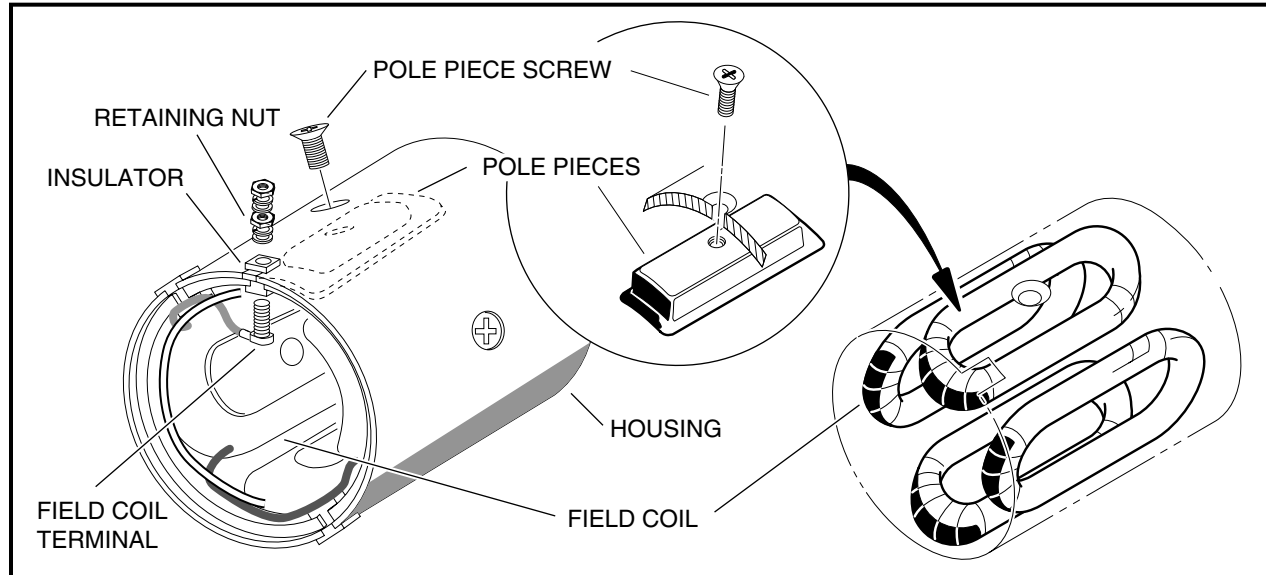

Figure 12-11 Field Coil Assembly
1. Remove the retaining nut from each field coil terminal and slide the insulator out of the slots in the housing. Remove the four pole piece screws from the housing. Remove the four pole pieces from inside the housing. Remove the field coils from the inside of the housing (Figure 12-11, Page 12-8). See following NOTE.
**NOTE:** Do not remove the insulators or the field coils unless an electrical test indicates that it is necessary (Figure 12-11, Page 12-8). See Test Procedure 8, Section 11, Page 11-30.
2. After the insulators are seated in the slots, install the threaded terminals through the wire connectors and then through the insulators. Install a flat washer, lock washer and nut onto each threaded terminal on the outside of the housing. Tighten nuts to 47.5 in-lb (5.4 N·m) (**Figure 12-11, Page 12-8**).
3. Install the four pole pieces into the housing. Use the four screws to secure pole pieces to the inside of the housing to retain the field wires. Tighten screws to 9 ft-lb (12.2 N·m) (**Figure 12-11, Page 12-8**).